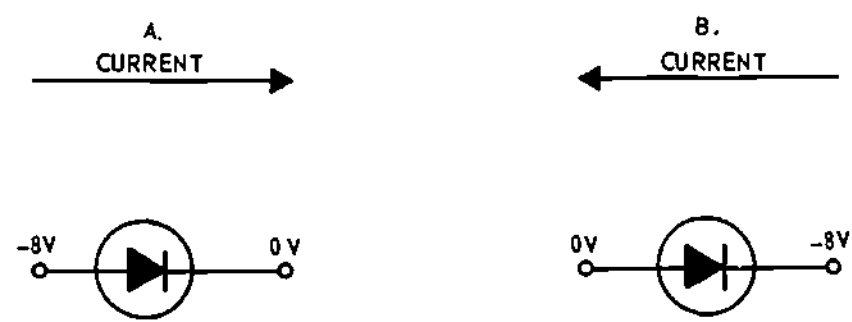

Figure 29-6. PN Junction Diodes
30. Which arrow in figure 29-6 represents minority current flow?